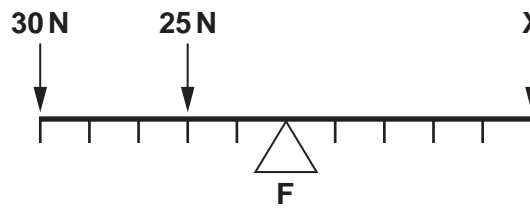

Fig. 4
- (b) Fig. 4 shows a simple beam supported at F.